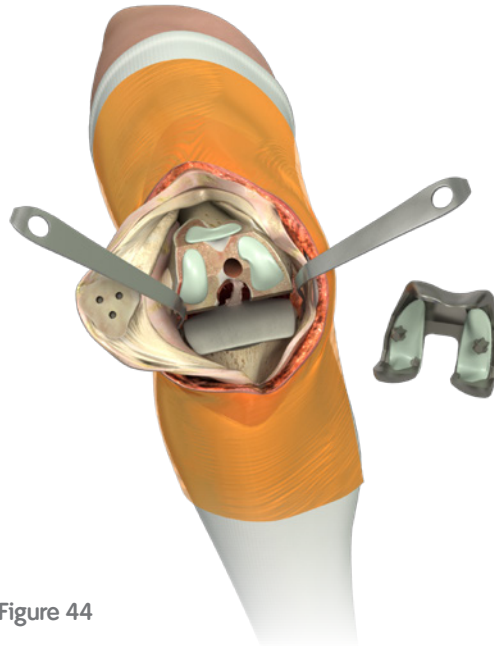

Figure 44
1. Flex the knee to 90° keeping the thin bent Hohmann laterally and removing the Aufranc retractor. Mix and prepare bone cement for femoral component and distal femur. Apply cement to the femoral component or prepared bone, based on the surgeon's preference. (Figure 44)